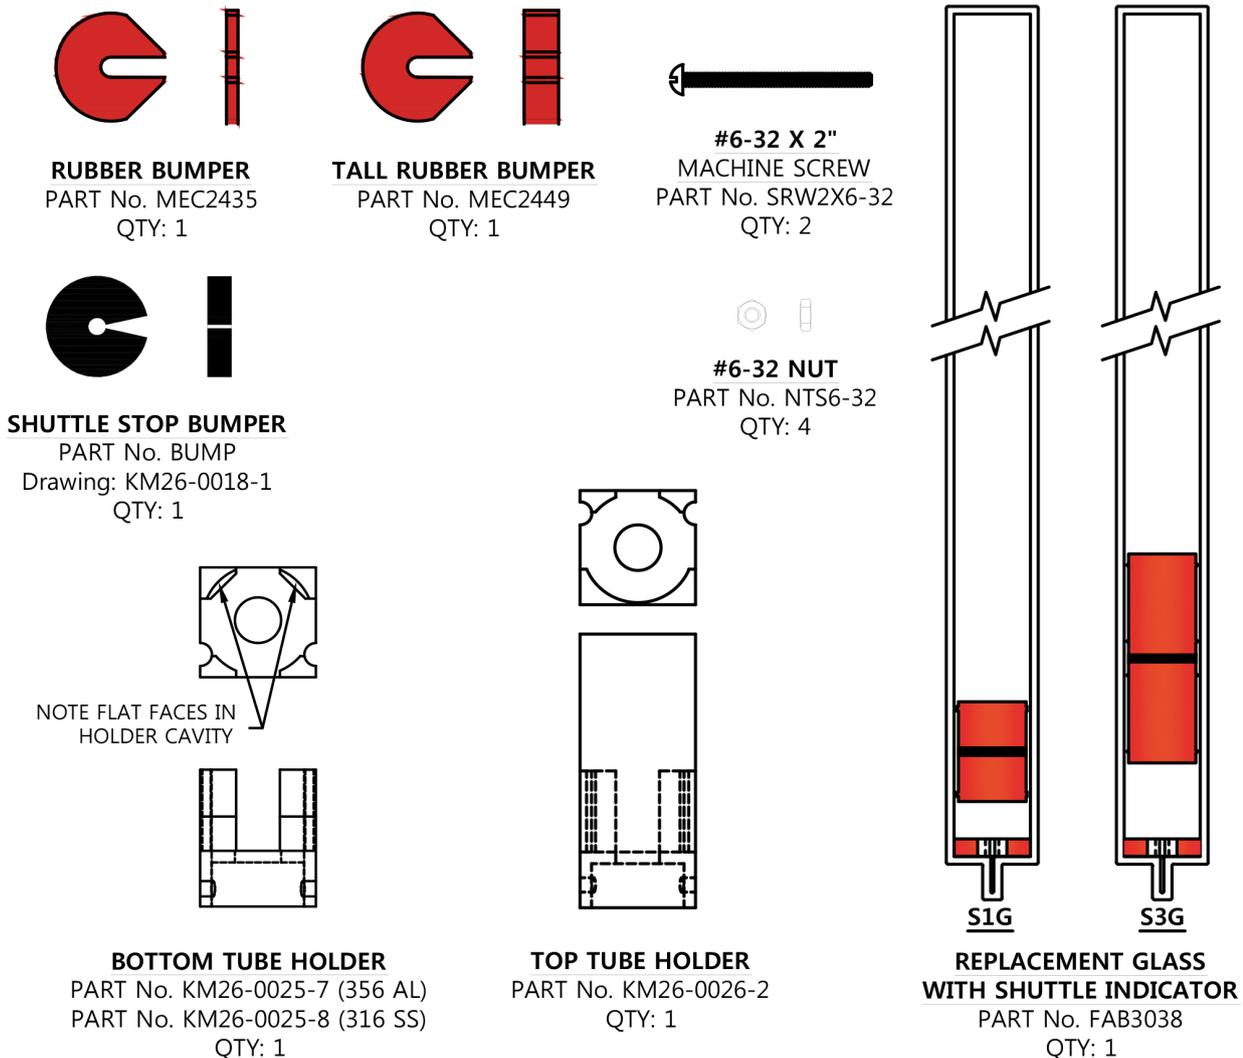

Figure 5.7-3 KM26 Bargraph Replacement Glass Installation Procedure
5.7.2 KM26 Magnetic Bargraph Glass Installation Procedure (refer to Figures 5.7-3 and 5.7-4)